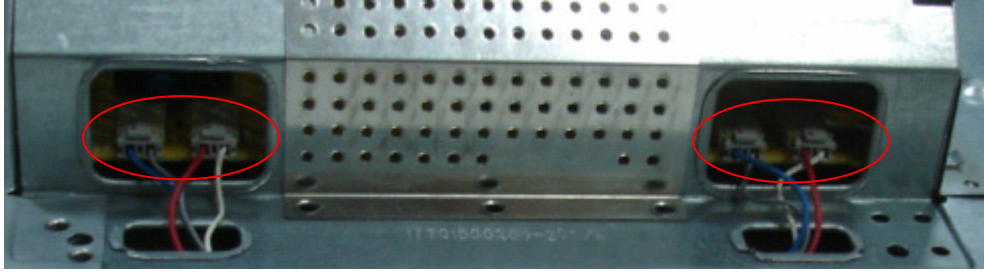

Fig 3
3. Remove the lamp connectors and the screw. (Fig 3)